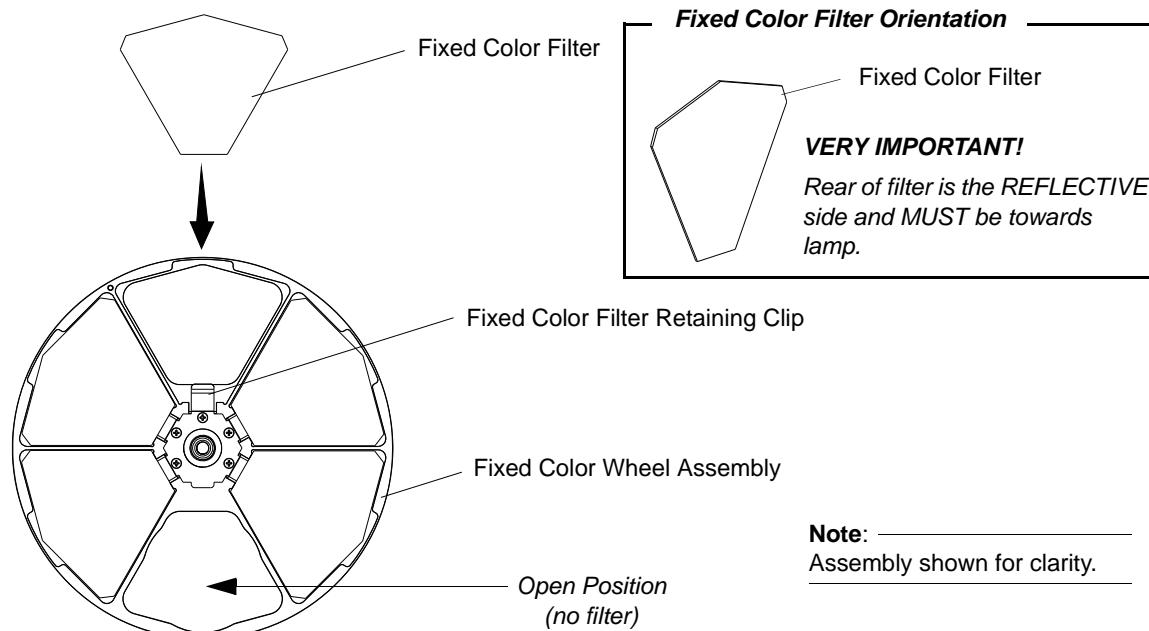

Figure A-6: Installing Fixed Color Filters
Step 6. Install replacement filter into slot. Note orientation of fixed color filter as indicated in Figure A-6. Make sure filter is inserted and secured by fixed color wheel retaining clip as shown in Figure A-6.